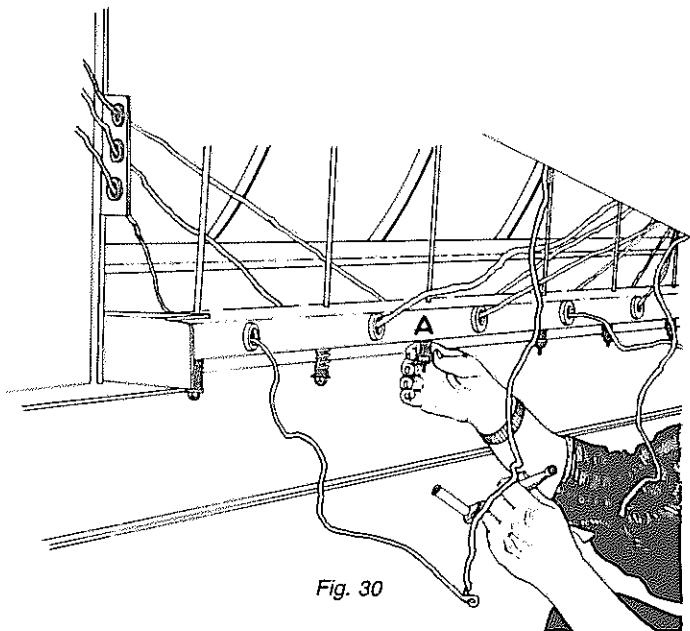
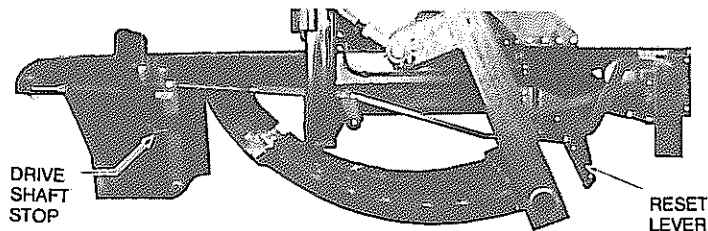

Fig. 30
Fig. 31
2. Adjust the twine tensioner at (A), see **Fig. 30**. Place twine through the tensioners during adjustment, the twine itself serves as a gauge. The correct adjustment is when twine can be PUSHED through the tensioners while having a minimum amount of clearance between the tensioners. If tensioners are worn $\frac{1}{32}$ inch or more, replace them.
4. Adjust the twine tensioner drive shaft stop, see **Fig. 31**, until the springs (A), **Fig. 30**, are compressed $\frac{1}{2}$ inch from relaxed length. The relaxed length is when twine can be pushed through the twine tensioner.